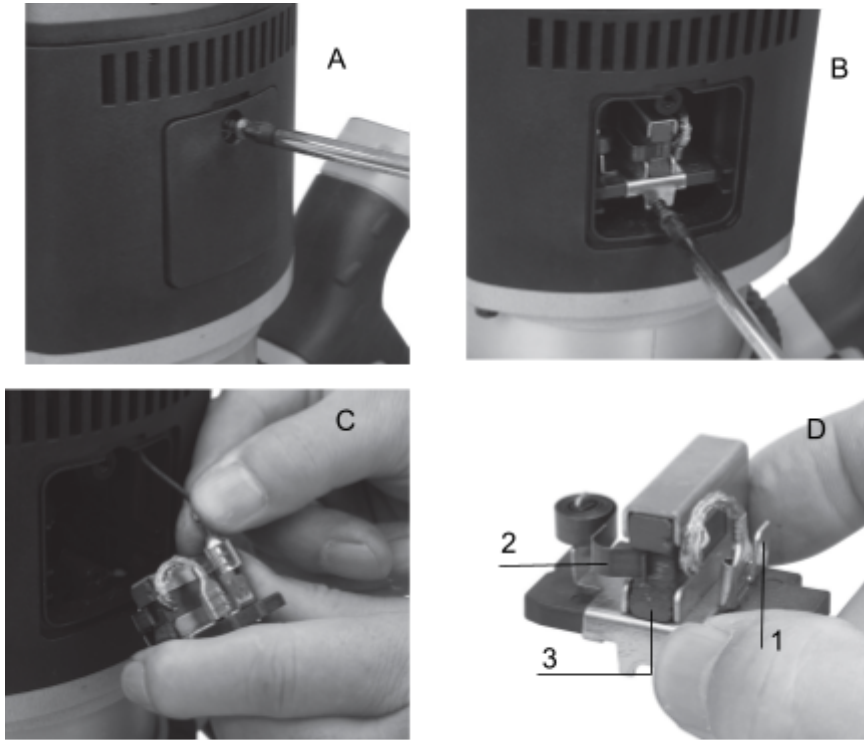

Figure 11
1. **Remove Brush Access Cover:** Remove the brush access cover (3) (**Figure 11-A**).
2. **Loosen Brush Assembly Screw:** Unscrew the brush assembly securing screw (**Figure 11-B**).
3. **Disconnect Wiring Connector:** Partially slide out the brush assembly and disconnect the wiring connector (**Figure 11-C**).
- Disconnect the brush electrical connector (**Figure 11-D1**).
- Move the spring aside (**Figure 11-D2**).
- Carefully remove the worn carbon brushes (**Figure 11-D3**).